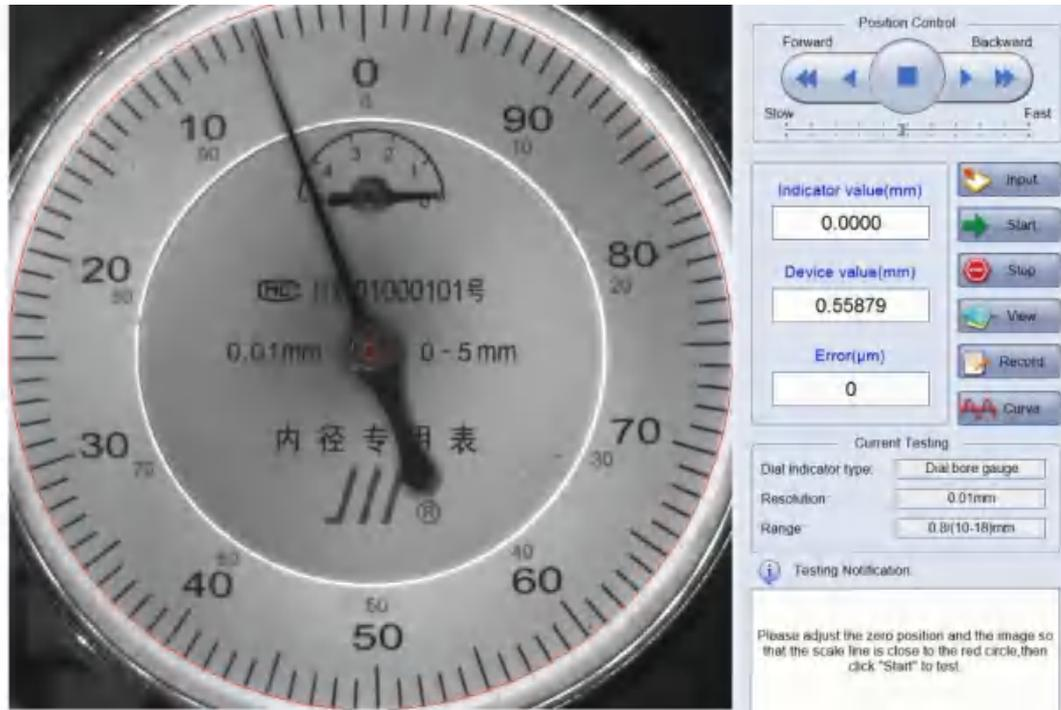

Figure 5-23 Adjusted image of the dial bore gauge
5. Click “OK” to go back to the main window and adjust the image and align the pointer with zero. See figure 5-23.